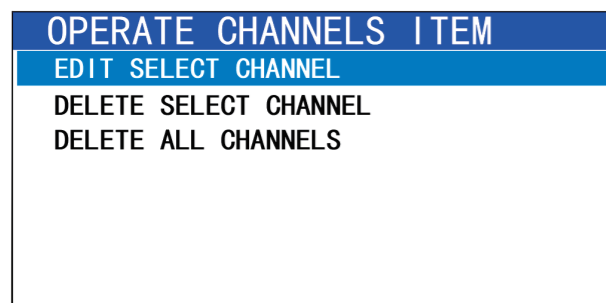

Figure 6.2.1
- As shown in Figure 6.2.1, select <Edit Select Channel> and press [ENT] to open the editing interface.